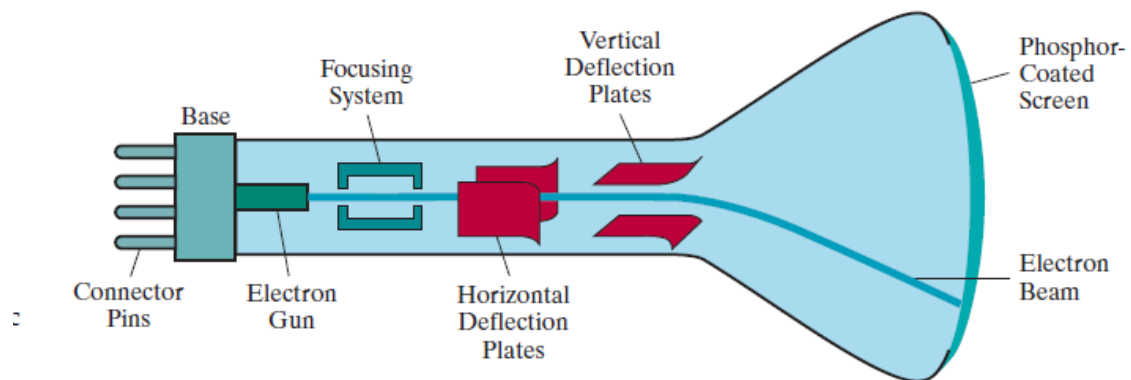

Fig 2.4 Electrostatic deflection of the electron beam in a CRT.
19. One pair of plates is mounted horizontally to control vertical deflection, and the other pair is mounted vertically to control horizontal deflection (Fig. 2-4). Spots of light are produced on the screen by the transfer of the CRT beam energy to the phosphor. When the electrons in the beam collide with the phosphor coating, they are stopped and their kinetic energy is absorbed by the phosphor. Part of the beam energy is converted by friction into heat energy, and the remainder causes electrons in the phosphor atoms to move up to higher quantum-energy levels. After a short time, the “excited” phosphor electrons begin dropping back to their stable ground state, giving up their extra energy as small quantum’s of light energy called photons.